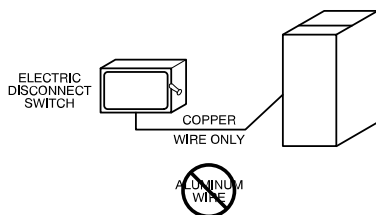

Fig. 33 – Field-Supplied External Electrical Box on Furnace Casing
Do not connect aluminum wire between disconnect switch and furnace. Use only copper wire. See (Fig. 33).
1. Drill two (2) 1/8-in. (3 mm) pilot holes through the dimples in the furnace casing near the 7/8-in. knockout or plug on the side of the casing. Do not remove the knockout or plug in the side of the casing.
9. Connect field power and neutral leads to furnace power leads inside the external electrical box (Fig. 33).